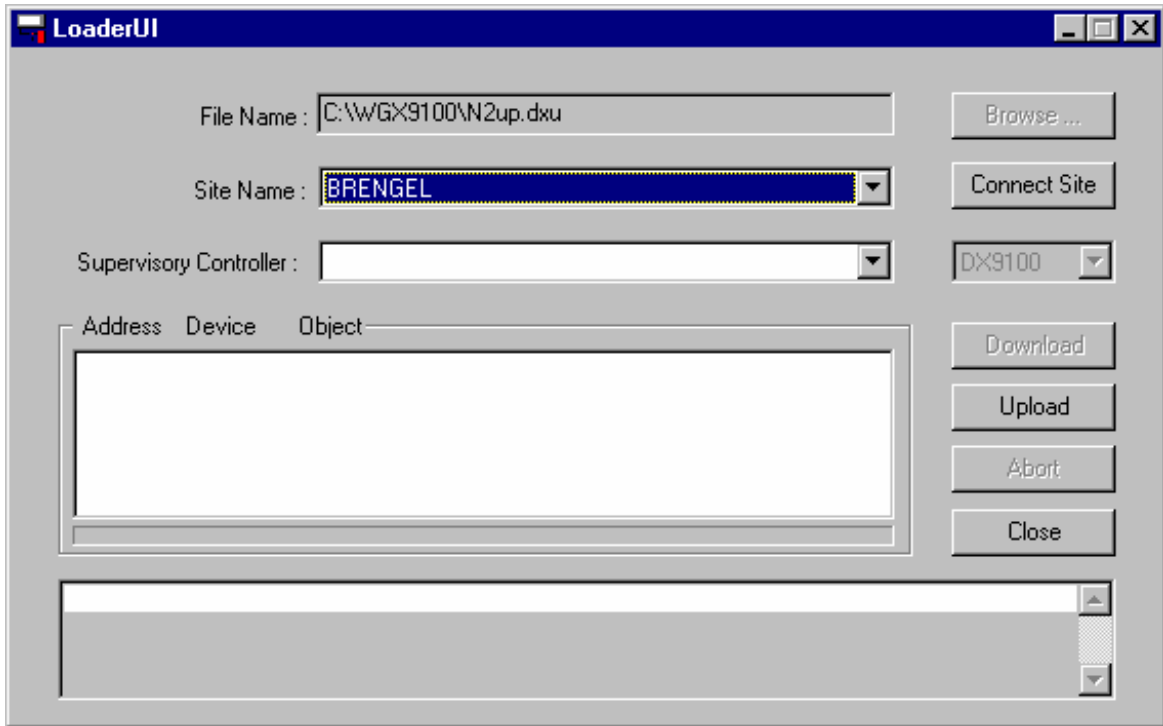

Figure 11-6: Loader UI Dialog Box for Upload
4. Click OK. When the Loader UI dialog box appears (Figure 11-6).